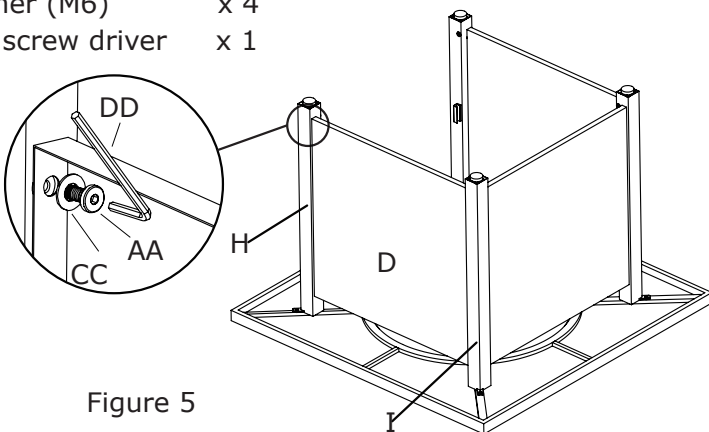

Figure 5
5. Attach back panel (D) to back-left leg (H) and back-right leg (I) with bolts (AA) and washer (CC) using hex screw driver (DD), (see Figure 5).